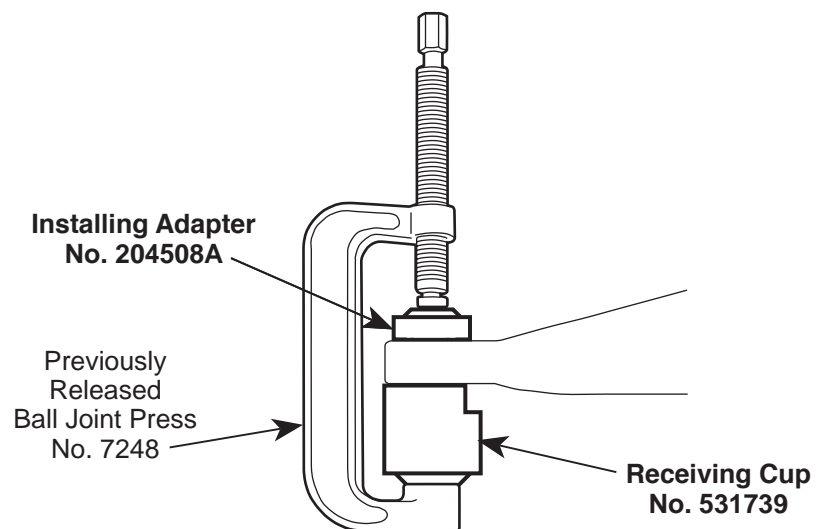

Figure 4
3. Assemble the ball joint press components as shown in Figure 4. Check the alignment of all tooling and components. Tighten the forcing screw until the ball joint is firmly seated.